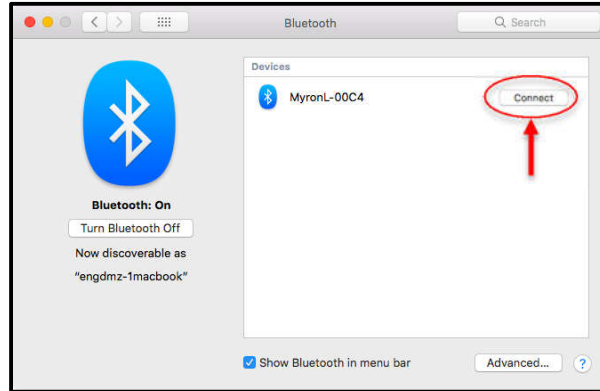

Figure 17
- 3) Wait for the Myron L[®] Company instrument to appear in the device list of the macOS Bluetooth Preference Window, select it. It should look something like **"MyronL-00C4"** (The characters "00C4" after the "-" will vary with instrument) (Figure 17).